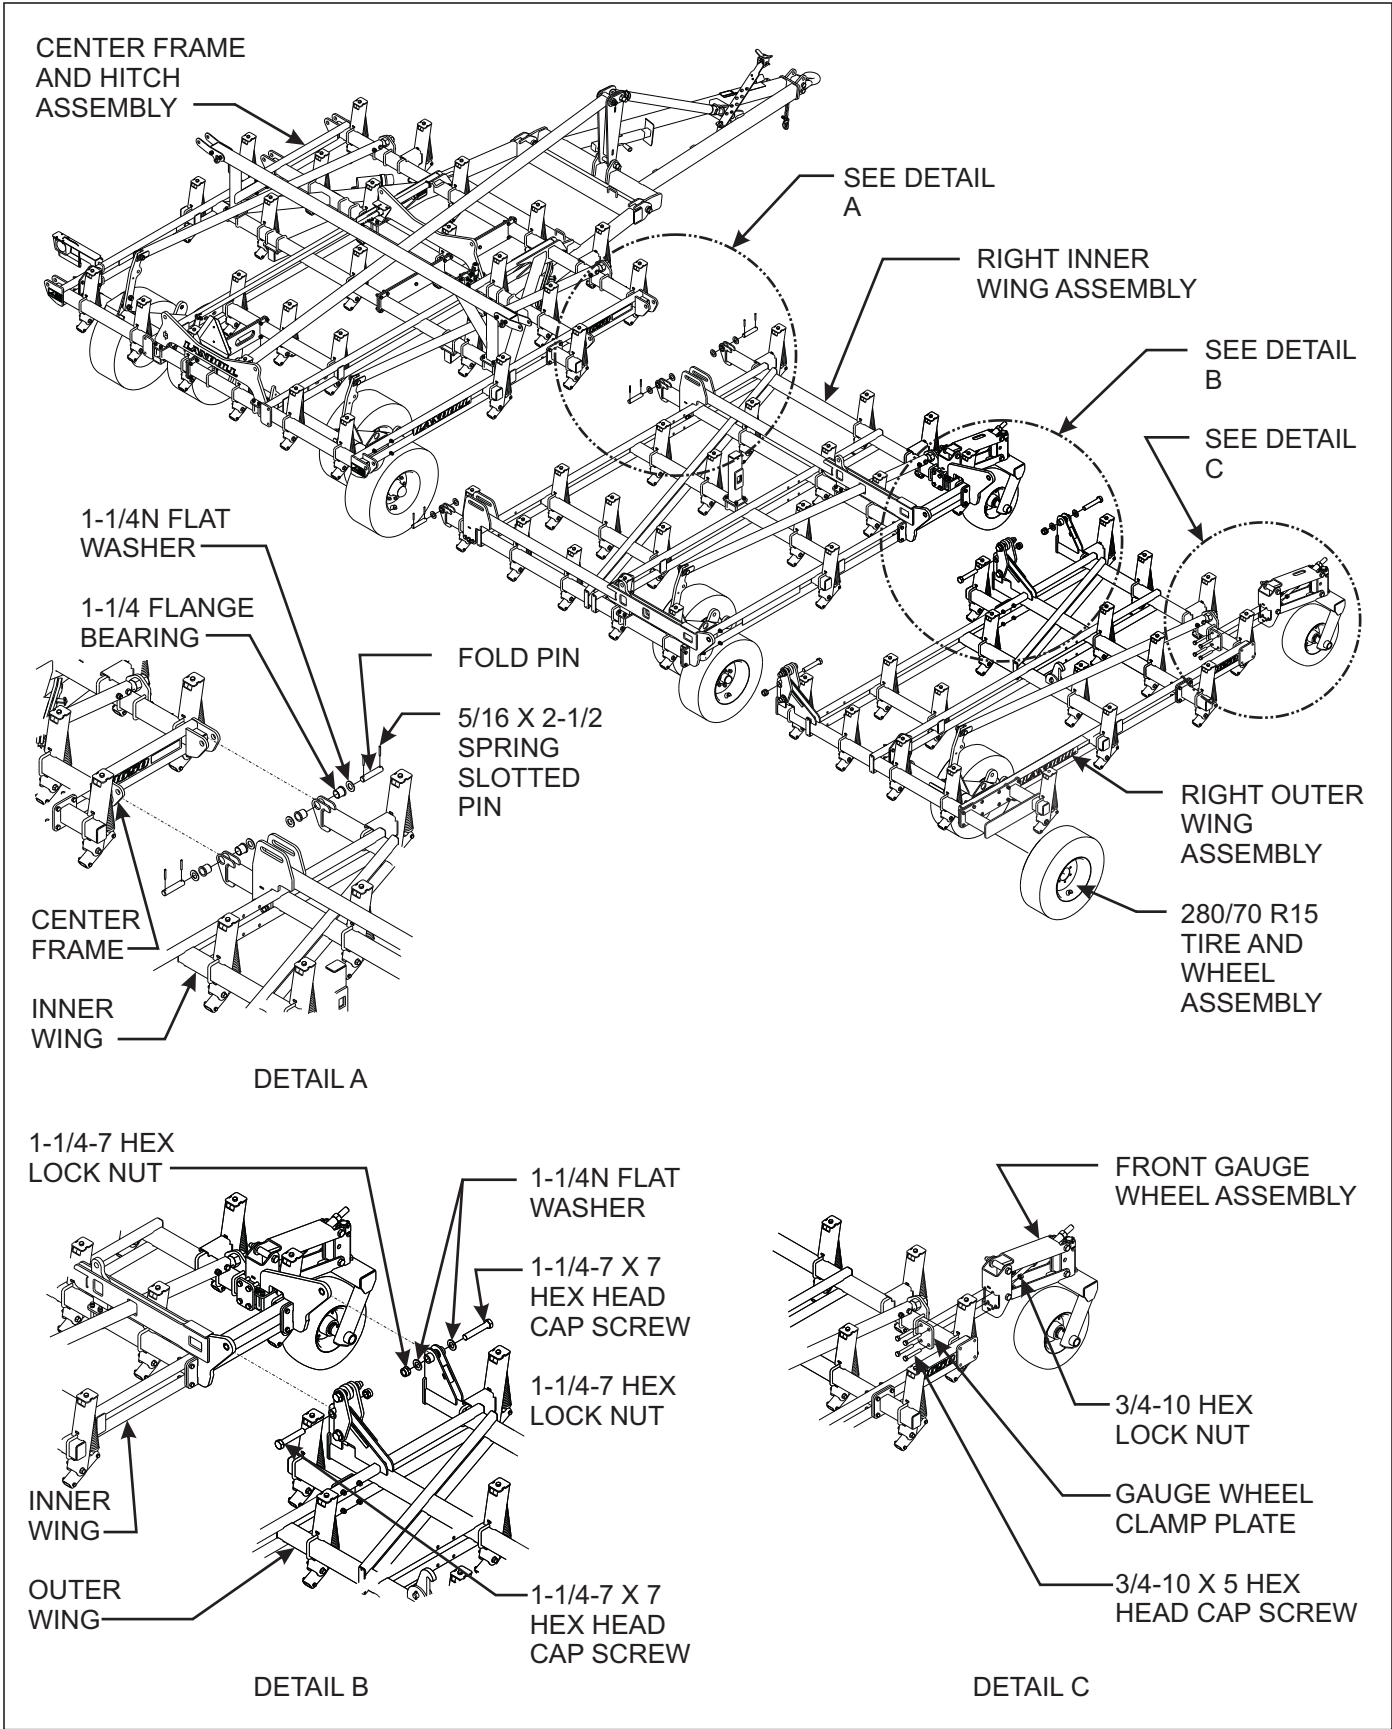

Figure 3-4: Inner and Outer Wing Assembly
1. Attach inner wing frames to center frame using 1-1/4 flange bearings, flat washers, fold pin, and 5/16 x 2-1/2 spring slotted pins See Figure 3-4.
1. Install outer wing frames to inner wing frames using 1-1/4-7 x 7 hex head cap screws, flat washers, and hex lock nuts in the front See Figure 3-4 **Note the direction of bolts as shown in Figure 3-4.**
Attach front gauge wheel assemblies to the inner and outer wings using gauge wheel clamp plate, 3/4-10 x 5 hex head cap screws, and hex lock nuts See Figure 3-4. **For front gauge wheel placement, See Figures 2-6.**